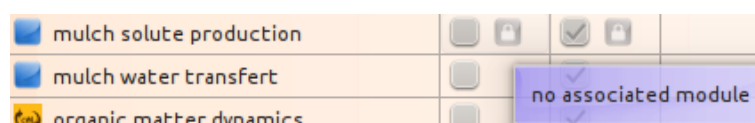

Figure 23: Process not selectable, accuracy of cause
- has all of its associated modules that cannot be used. This case occurs when the module waits for inputs from upstream modules which do not exist. To find out the reason for the non-availability, place the cursor on the checkbox, a contextual help then appears indicating the nature of the error (see figure 23).